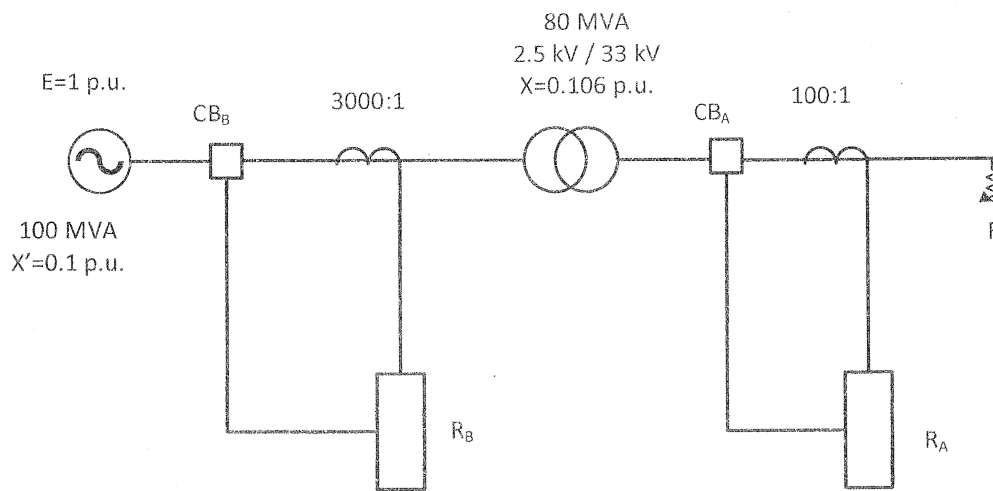

Figure Q5
- b) In order to provide the overcurrent protection to a three phase system shown in Figure Q5, two Inverse Definite Minimum Time (IDMT) relays are employed. CT ratios of the current transformers associated with the relays and current settings are as follow. Time Multiplier Setting (TMS) for relay R_A is 0.1. Assume that the circuit breaker operating time is 0.5 seconds.
- i) If a three phase fault occurs at point F in the network shown in Figure Q5, calculate the fault current at point F.